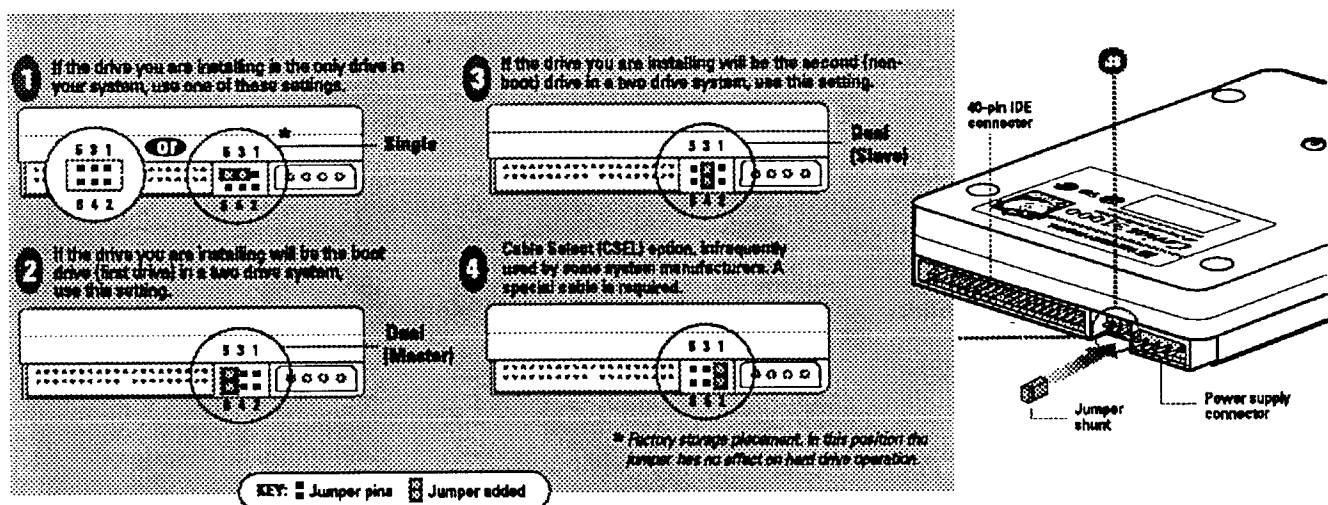

Figure 1. Jumper Settings for Western Digital Hard Drives
All newer Caviar drives are shipped with a jumper shunt in the neutral storage position (across pins 5 and 3) for future dual drive use. See Figure 1.
Refer to Figure 1 for an illustration of all jumper settings.
1. Refer to the previous descriptions and Figure 1 to determine your configuration.
2. Carefully place the shunt over the two pins specified in Figure 1.